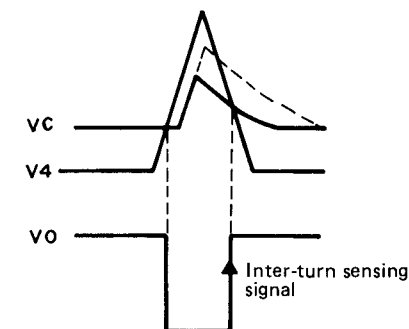

Fig. 5
- 6) A_4 is a comparator with hysteresis, and it compares V_4 and V_c , and makes the rise of its output V_0 the intertune sensing signal. (Refer to Fig. 5)